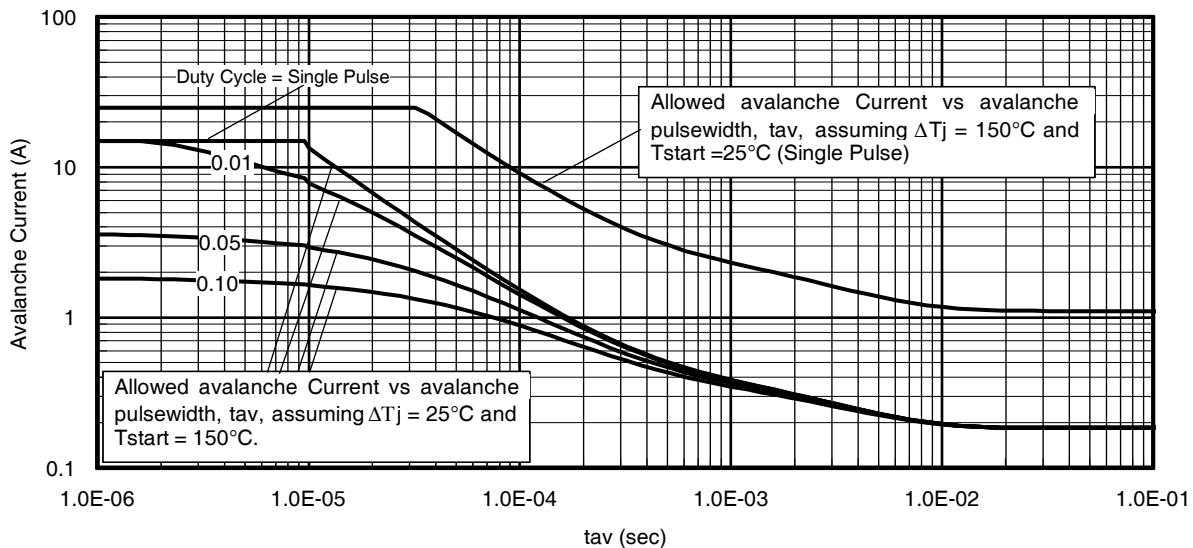

Fig 14. Typical Avalanche Current Vs. Pulsewidth
- ① Repetitive rating; pulse width limited by max. junction temperature.
- ② Starting $T_J = 25^\circ\text{C}$, $L = 1.00mH$, $R_G = 25\Omega$, $I_{AS} = 15A$.
- ③ Pulse width $\leq 400\mu s$; duty cycle $\leq 2\%$.
- ④ R_{θ} is measured at T_J of approximately 90°C .
- ⑤ Limited by T_{Jmax} . See Figs. 14, 15, 17a, 17b for repetitive avalanche information
- ⑥ When mounted on 1" square PCB (FR-4 or G-10 Material). For recommended footprint and soldering techniques refer to application note #AN-994.
Notes on Repetitive Avalanche Curves , Figures 14, 15:
7. ΔT = Allowable rise in junction temperature, not to exceed T_{jmax} (assumed as 25°C in Figure 14, 15).